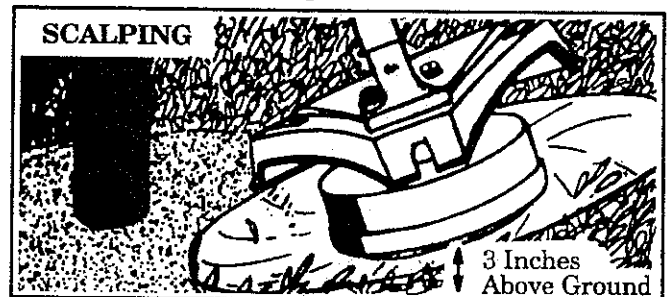

Figure 16
2. **SCALPING – FIGURE 16 .** The scalping technique removes unwanted vegetation. Hold the bottom of the trimmer head about 3 inches above the ground and at an angle. Allow tip of line to strike ground around trees, posts, monuments, etc. *This technique increases line wear.*